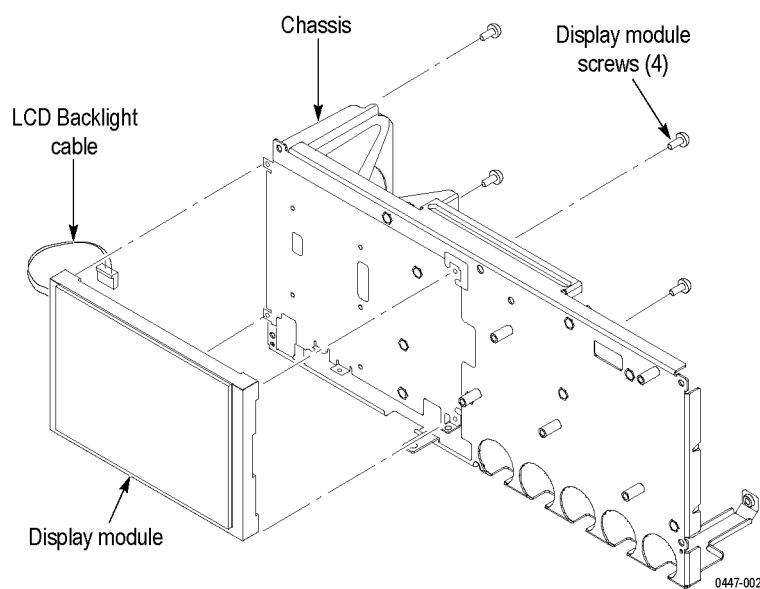

Figure 9: Removing the Display module
Removal. To remove the Display module, follow these steps. (See Figure 9.)
7. Remove the copper tape and disconnect the LCD data cable from the Display module (leave the other end connected to J302 on the Display Adapter board). (See Figure 9.)
Installation. To install the Display module, follow these steps. (See Figure 9.)